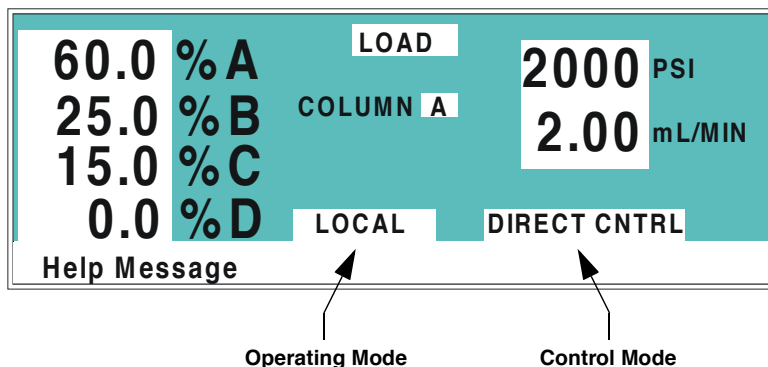

Figure 3-2. Main Screen: Operating and Control Mode Fields
1. Go to either the **MAIN** or **DETAIL** screen. The operating mode field displays **LOCAL**, **REMOTE**, or **LOCKED RMT**. The control mode field displays **DIRECT CNTRL** or **METHOD**. See the example in Figure 3-2.